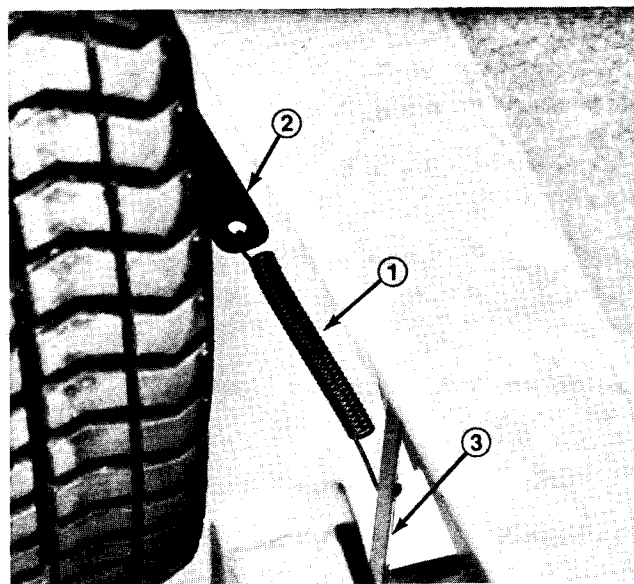
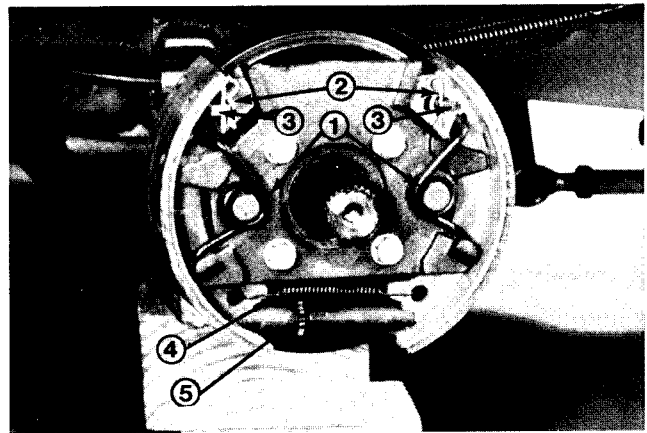

Figure 12
Figure 13
1. Disengage the spring from the slotted hole on the cutting unit suspension frame (Fig. 12).
1. Remove the brake pedal return springs (Fig. 12).
2. Loosen the five (5) wheel lug nuts holding the wheel and tire assembly on the wheel studs.
**Wear a face shield when removing the brake return spring (Fig. 13). The spring is under tension and could possibly slip during removal.**
7. Remove the brake shoe return spring (Fig. 13) by prying the end of the spring up and over its retaining boss. Use a brake spring pliers or flat blade screwdriver.
12. Install the wheel and tire assembly on the studs with five (5) wheel nuts. Tighten the wheel lug nuts.
14. Install the brake pedal return springs (Fig. 12).
1. Remove brake pedal return spring (Fig. 12).